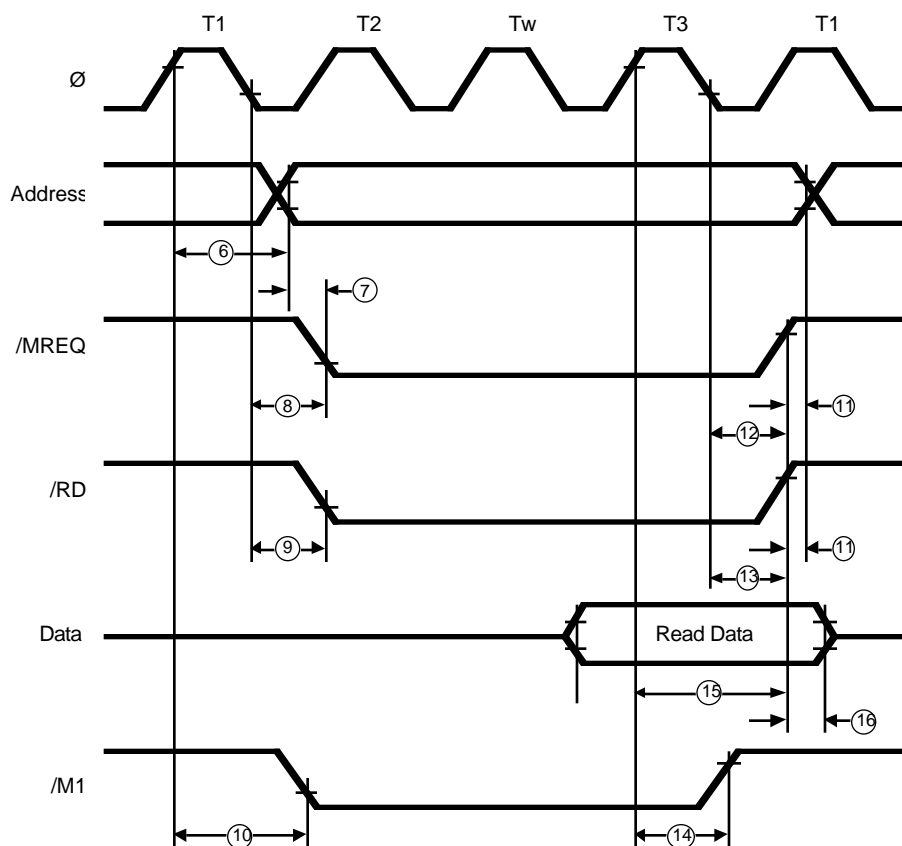

Figure 1. Z180 Opcode Fetch Cycle Timing (One Wait State)
- Opcode fetch cycle (Figure 1)